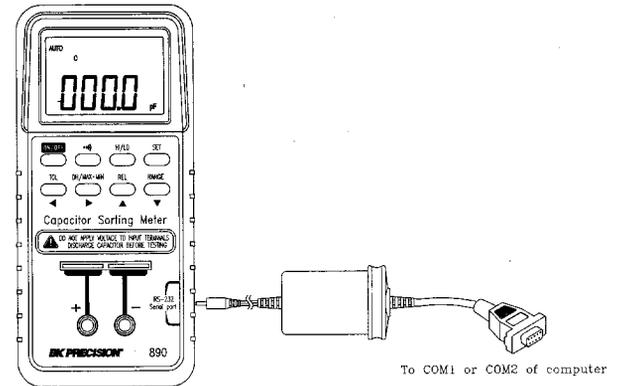

Figure 12. Cable Connection for Communication
2. Connect one side of cable to the RS232 jack of meter and connect the 9 pin cable terminal to communication port 1 or 2 of the personal computer. See Figure 12.